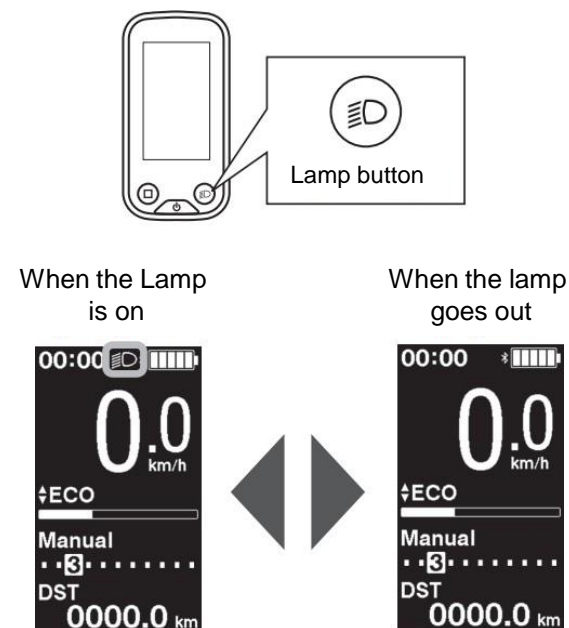

Figure 4.15
1. Press the light button. See Figure 4.15.